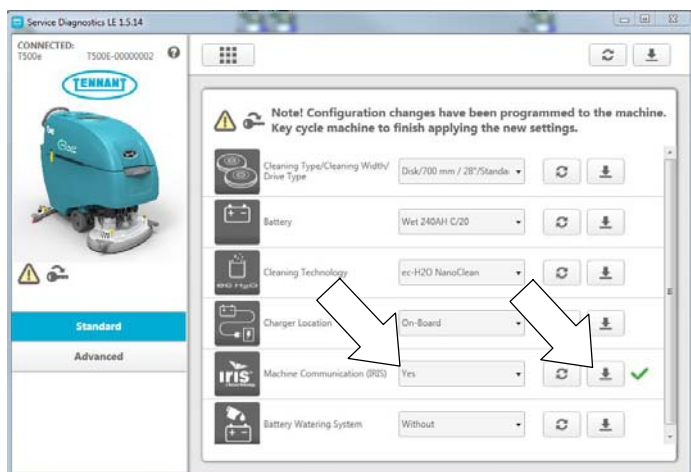

Fig. 25
7. From the machine configuration page, select “Yes” from the **IRIS** drop-down menu to configure the machine with telemetry technology (Figure 25). Then press the down arrow button to program the machine. A green check will appear next to the down arrow button when programmed.